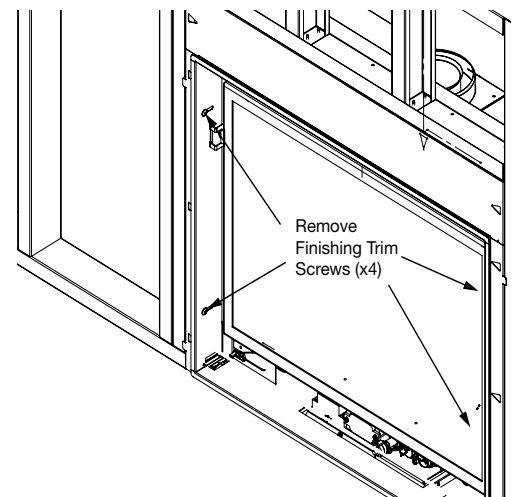

Figure 53: Z25 Finishing trim removal.
- Remove the 4 screws holding the adjustable Finishing Trim in place (Figure 53). The trim can accommodate wall finishes from 1/2" to 1-1/4" (12mm to 32mm).